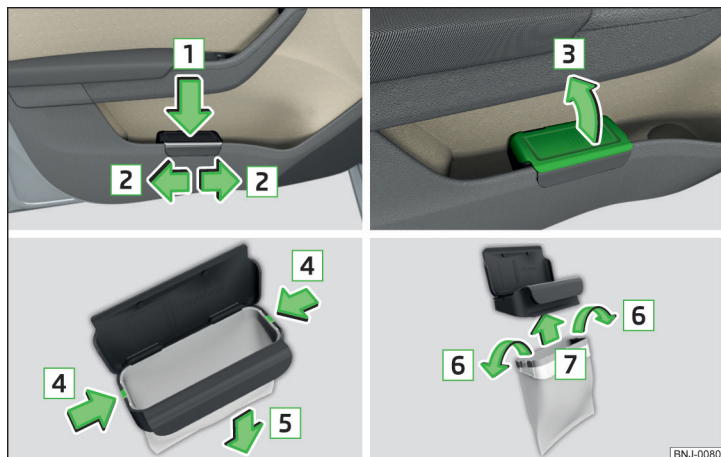

Fig. 72 Waste container: insert and move/open/replace bag
- Push the waste container to the back in the direction of the arrow **1** » Fig. 72.
- Remove the waste container in the opposite direction to the arrow **1** » Fig. 72.
- Open the waste container in the direction of the arrow **3** » Fig. 72.
- Push the two catches of the inner frame out of the container body in the direction of the arrow **4** » Fig. 72.